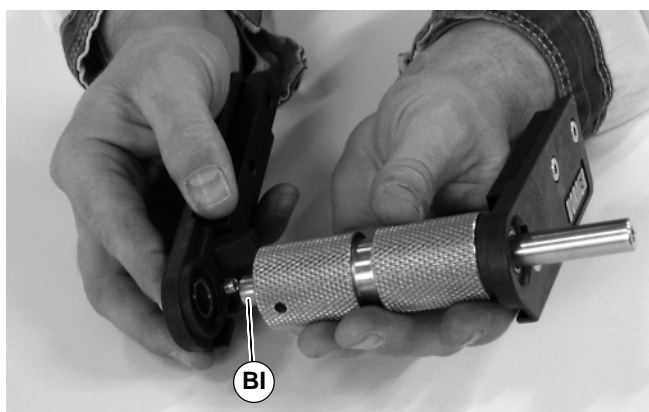

Figure 40
2. With bearing installed in head plate, press bearing on to non-drive shaft (BI of Figure 40) of pulley.